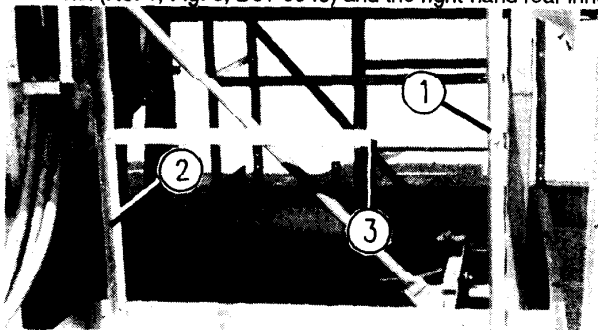
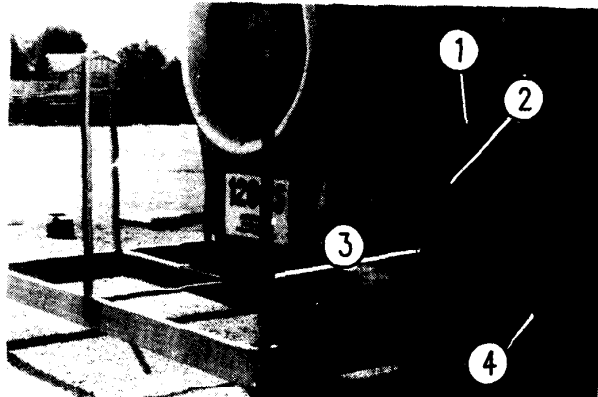

FIG. 6 - INSTALLING INNER RIGHT-HAND GUARD RAIL AND SUPPORTS.
FIG. 7 - INSTALLING INNER LEFT-HAND AND OUTER GUARD RAIL SUPPORTS.
- A. Connect the right-hand front inner guard rail support channel (No. 1, Fig. 6, D61-0040) and the right-hand rear inner
guard rail support angle (No. 2, Fig. 6, D61-0036) as shown in Fig. 6. Use 5/16" x 3/4" bolts.
- B. Use 5/16" x 3/4 bolts and connect the left-hand inner guard rail support angle (No. 1, Fig. 7, D61-0035) as shown.
- C. Connect a lower inner guard rail angle (No. 2, Fig. 7, D61-0039) on each side as shown in Fig. 6 and Fig. 7.
- A. Use 5/16" x 3/4" bolts and LOOSELY connect the seven guard rail support channels (No.3, Fig. 7, D61-0037) to the platform support channels.
- B. Connect the outer door hinge channel (No. 4 Fig. 7, D61-0066) using 5/16" x 3/4" bolts.
- F. Fully tighten all guard rail bolts, including the seven guard rail support channels (No. 3, Fig. 7, D61-0037) which were not tightened earlier.